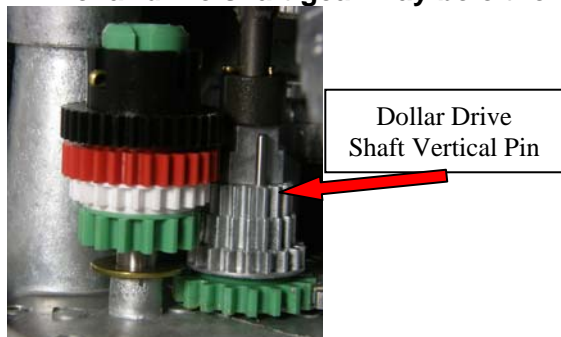

Figure 2a: Colored Gear Stack
- 3.) Locate the colored gear stack (black, red, white and green colored gears) (see Figure 2a for reference). Remove cotter pin, all colored gears, and washer from the mounting post. Set aside these components until step five.